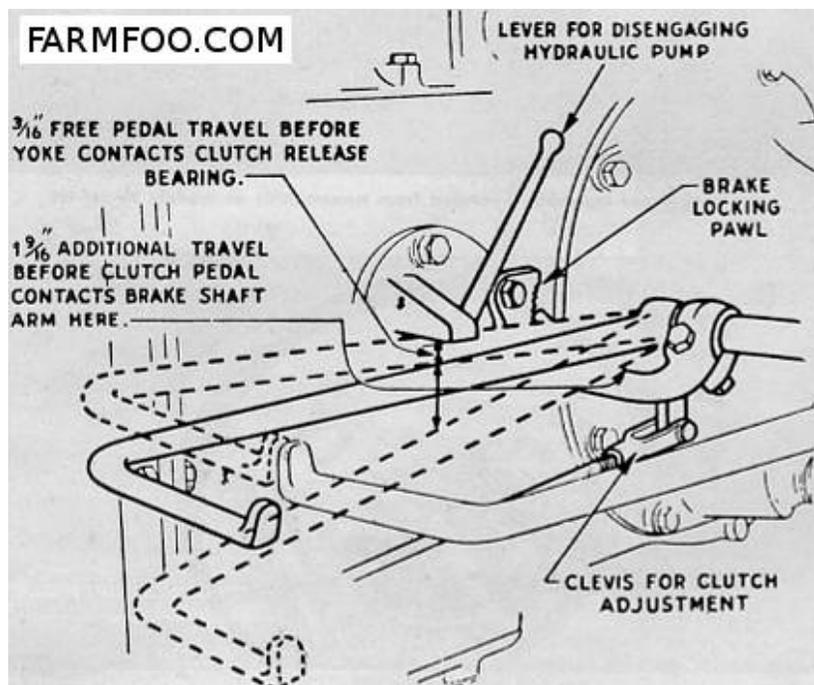
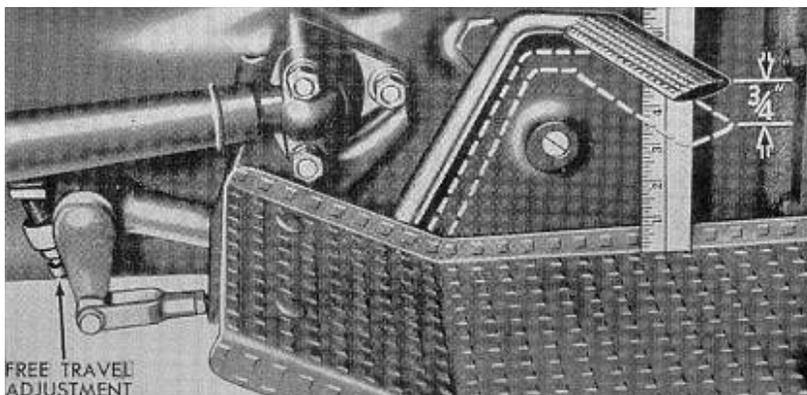

Fig. F048 - Clutch pedal adjustment on models 2N-9N.
Fig. F049 - Clutch pedal adjustment on model 8N.
63. Free travel of models 2N-9N clutch pedal should be 3/16 inch and for model 8N 3/4 inch. To adjust pedal clearance on models 2N-9N, remove clutch rod clevis pin as shown in Fig. F048 and screw clevis pin in or out as required and reconnect. Early model 8N tractors have an adjustment screw which is part of clutch pedal as shown in Fig. F049. Later 8N tractors have a rod linkage system with a clevis adjustment.